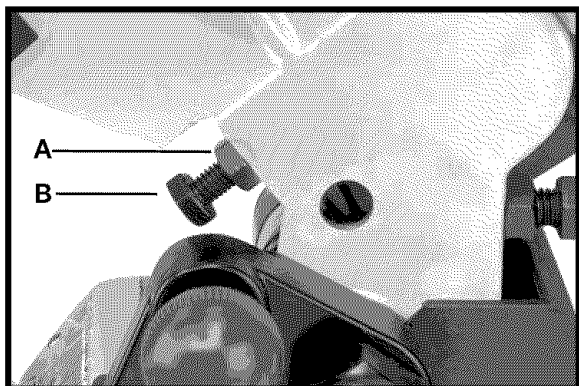

Fig. 22
2. The downward travel of the saw blade should be limited to prevent the saw blade from contacting any metal surfaces of the machine. This adjustment is made by loosening lockknob (A) Fig. 22, and turning adjusting screw (B) in or out.
4. After the downward travel of the saw blade has been adjusted, tighten lockknob (A) Fig. 22.